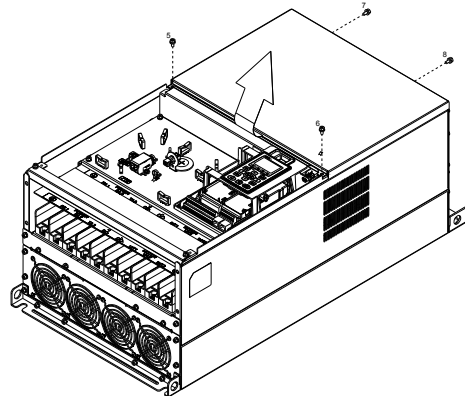

Figure 2
(2) Loosen the screw (figure 2) and removes the cover. Screw torque: 24~26 kg-cm / [20.8~22.6 lb-in.] / [2.4~2.5 Nm]